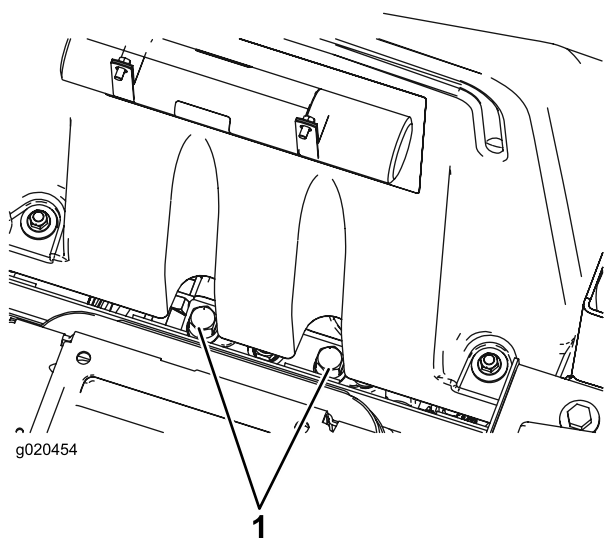

Figure 55
- Raise the seat. The bypass valves are located below the front of the fuel tank (Figure 55).